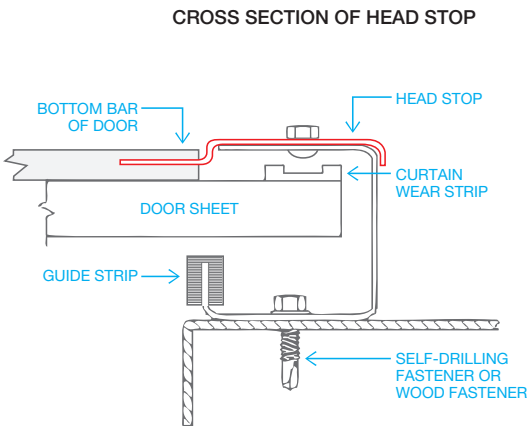

Figure 8A
- Install the removable head stop (**Figure 8A and 8B**).